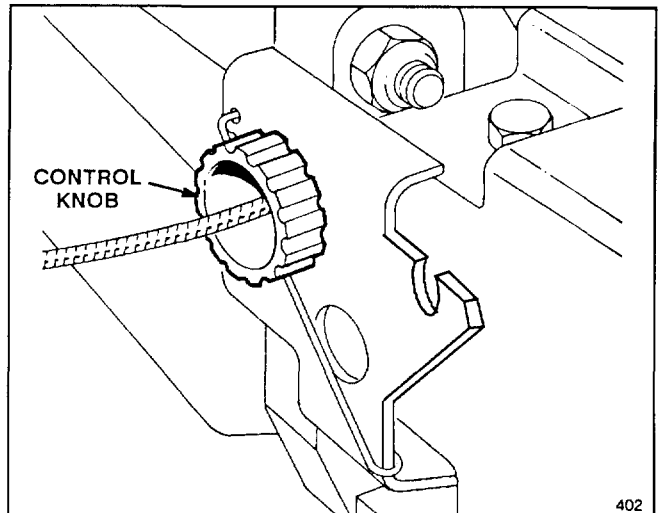

Figure 12
3. **ADJUSTMENT** (Fig. 12)—Rotate control knob clockwise to increase distance between control bar and handle. Rotate control knob counterclockwise to decrease distance between control bar and handle.